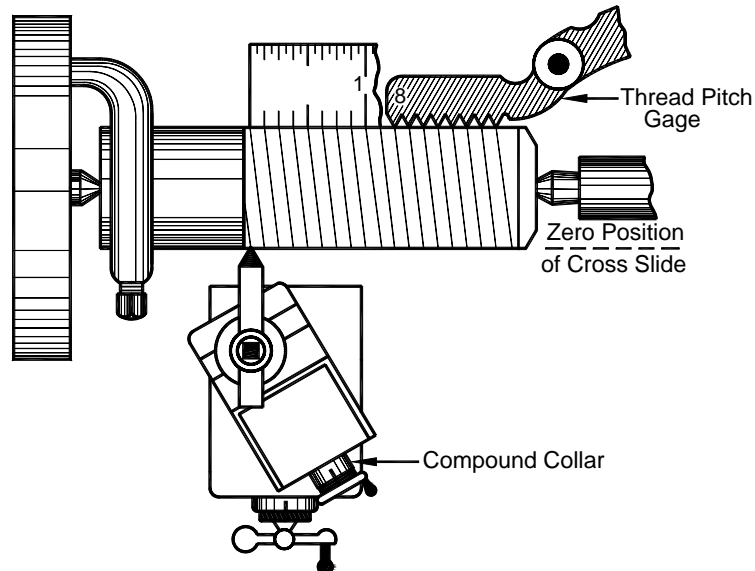

Figure 7-139. Checking thread pitch after initial threading pass.
15. Stop the spindle, and using either a thread pitch gage or a ruler, check that the cut is the desired pitch. See Figure 7-139. Correct the gearbox setting and try again if the thread count is wrong.